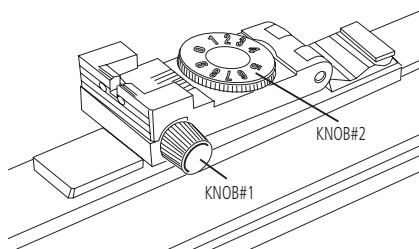

Fig 4
- If the shot is deflected to the left of the target, turn the KNOB#1 clockwise. (Fig. 4)
- If the shot is deflected to the right of the target, turn the KNOB#1 counter-clockwise. (Fig. 4)
- If the shot is too high, turn KNOB#2 clockwise. (Fig. 4)
- If the shot is too low, turn KNOB#2 screw counter-clockwise. (Fig. 4)